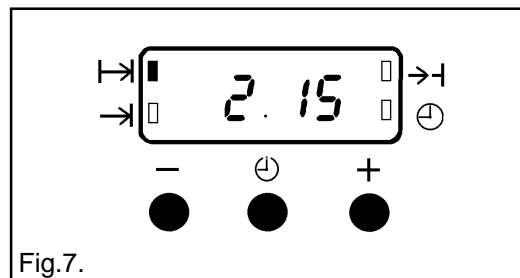

Fig.7.
- iii) To set the length of cooking time, press the Selector control button (⏻) until the 'Cook Time' indicator is illuminated (|→). Press the increase control (+) until the required length of cooking time is displayed, e.g. 2 hrs 15 mins as Fig. 7. If necessary depress the decrease control (-) until the correct time interval is achieved.